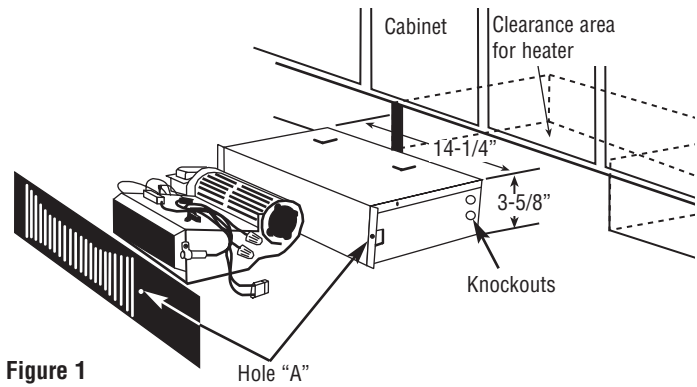

Figure 1
1. Cut a 14 1/4" x 3 5/8" (361.9 mm x 92.1 mm) opening at desired location as shown in Fig. 1. Keep clearance area free of obstructions.
3. Determine which knockout in enclosure will be used for field wiring and remove (see Figure 1). Install strain relief (field supplied).
7. Using the holes in the flanges of the enclosure for a template, secure both the front grille and the heater by drilling two .093" (3/32") (2.3 mm) diameter holes into the cabinet board and installing two No. 6 x 3/4" (No.6 x 19 mm) screws (supplied) through hole "A" (see Figure 1).